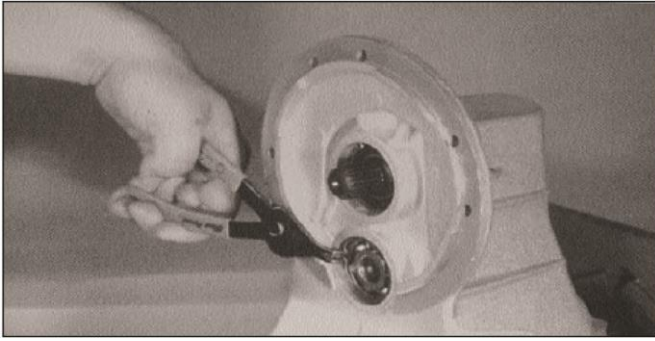

Figure 7-15
13. Remove snap rings (16) from each intermediate bore. See Figure 7-15.